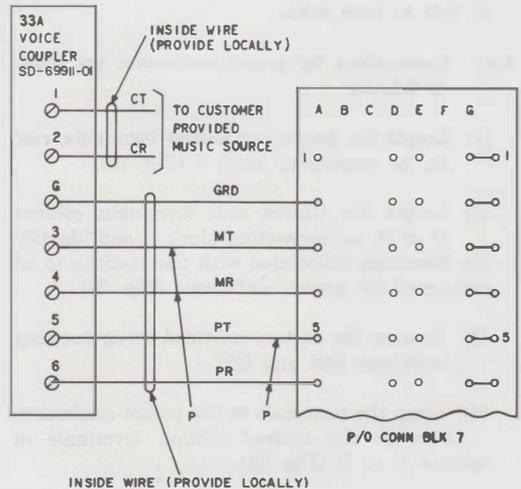

Fig. 29—Connections for 33A Voice Coupler
- (2) Mount voice coupler externally to the KSU (wherever customer desires).
- (3) Connect voice coupler to 580-type KSU as shown in Fig. 29.
- (4) Have customer connect voice coupler to his music source as shown in Fig. 29.